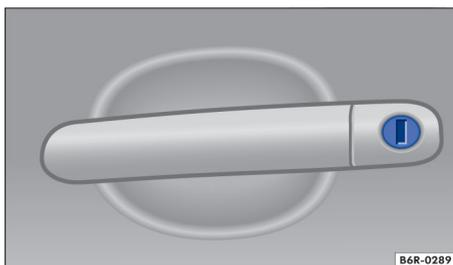

Fig. 43 Driver door handle with lock cylinder.
- Insert the key bit into the lock cylinder and lock/unlock the vehicle → Fig. 43. <